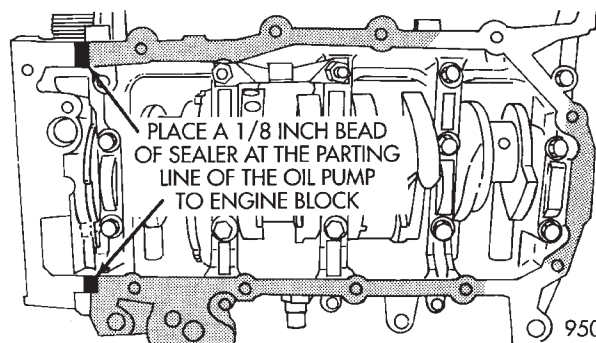

Fig. 65 Oil Pan Sealing
(1) Apply Mopar Silicone Rubber Adhesive Sealant or equivalent at the oil pump to engine block parting line (Fig. 65).